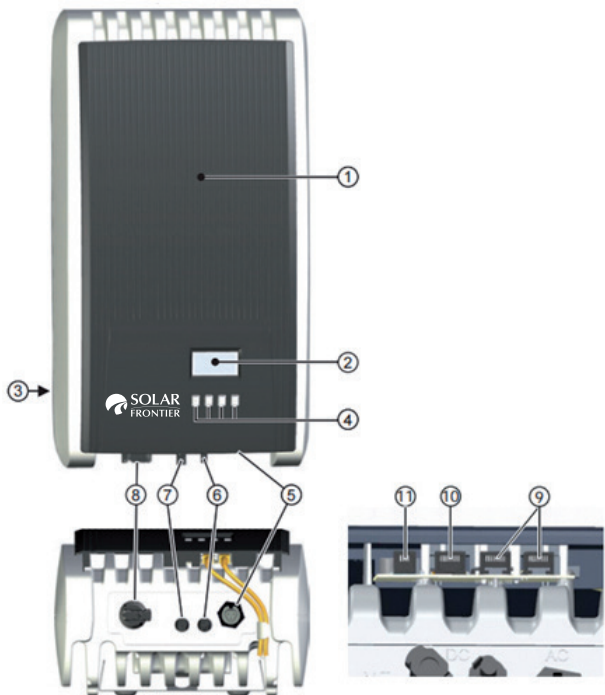

Figure 31
► Set the DC circuit breaker on the inverter to position I (Figure 31). After testing via the internal MSD (approx. 2 minutes), the power fed into the grid can be shown on the display (assuming that sunlight is present).
The operating buttons (④ in Figure 31) have the following functions: